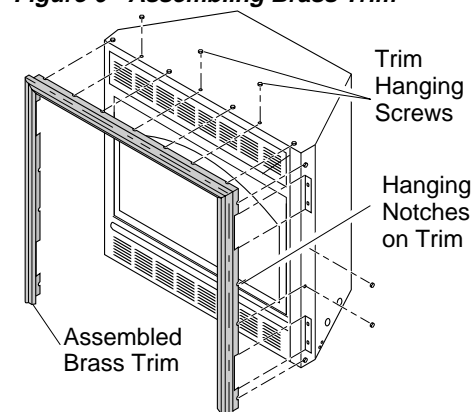

Figure 7 - Attaching Brass Trim to Fireplace
8. Tighten trim hanging screws (#10 x 6.25 shoulder) into holes in cabinets. Place the assembled trim onto fireplace cabinet. Align hanging notches on trim with hanging screws on side of fireplace (see Figure 7). Push trim firmly into place, sliding hanging notches over hanging screws.
10. Install brass trim after final finishing and/or painting of wall (see Figure 7, page 7).